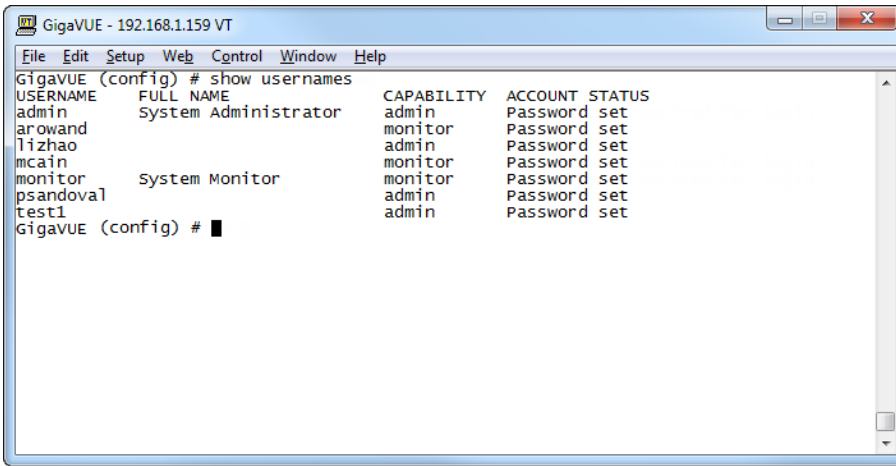

Figure 16 *Reviewing the User List*
2. Once you have configured these basic user accounts, use the **show usernames** command to review your settings. Figure 16 Reviewing the User List shows some sample **show usernames** output after several users have been added.